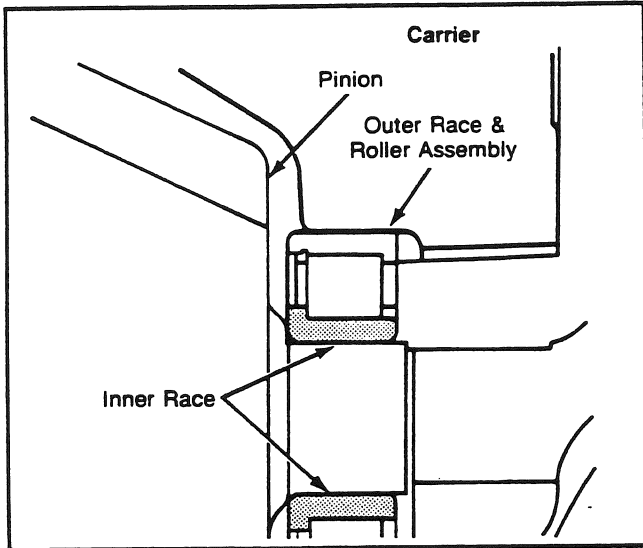

Fig. 34
8. Use a press or soft mallet and sleeve of the same size as the outer race to install the race into the carrier bore. Press the race until it seats squarely against the shoulder in the bottom of the bore (see Fig. 34).